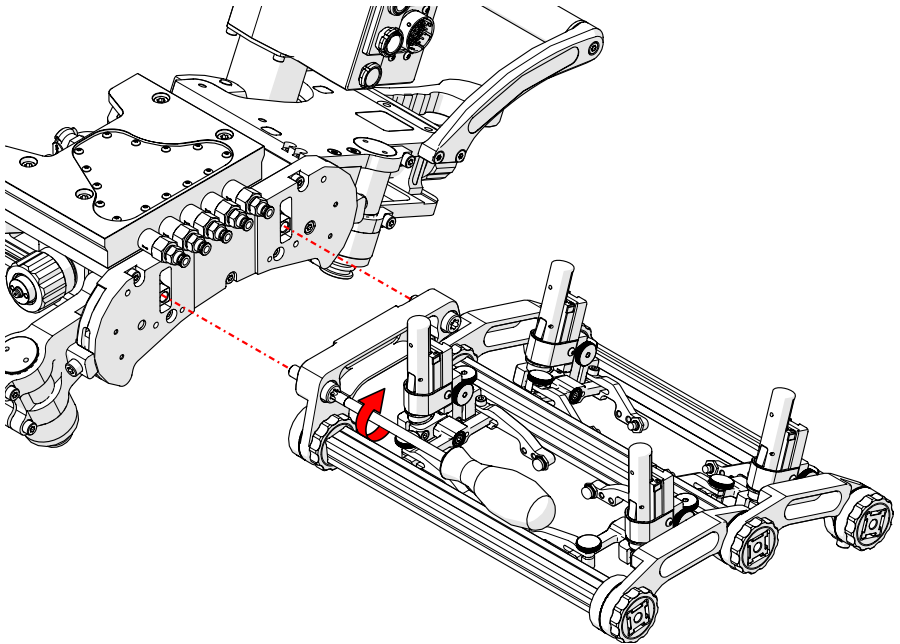

Fig. 152 - Screw the probe holder frame to the carriage
3. Use the supplied T45 driver and align the screws of the probe holder frame to the nuts on the carriage (Fig. 152).